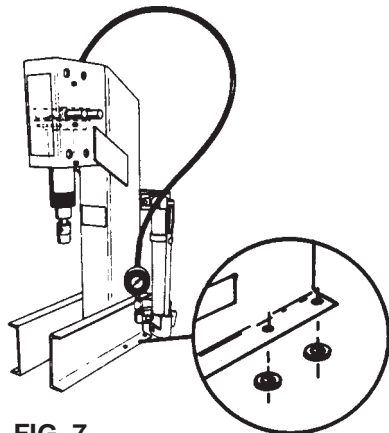

FIG. 7
**NOTE:** The press may require shimming (see Figure 7 Inset A) before attachment to a work bench or the pedestal. Add Washers (P.N. 12004) under the press mounting holes on the low side until the press is vertical.